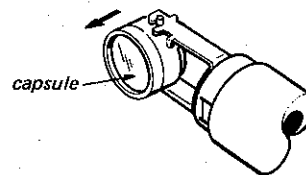

Fig. 2-2.
### 2-3. Capsule Removal (Refer to Fig. 2-2.)
2. Pull off the capsule in the direction shown by the arrow in Fig. 2-2.